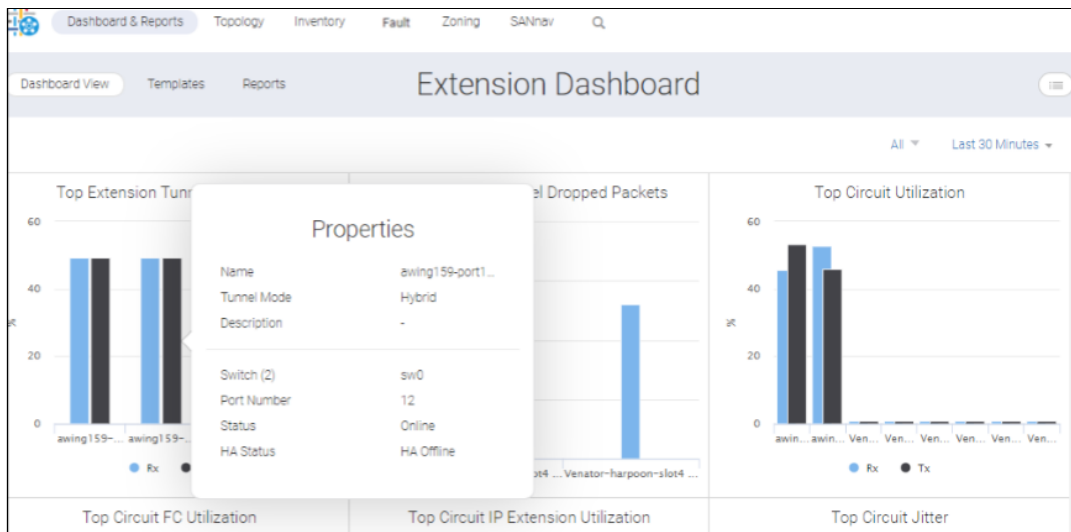

Figure 9-29 Properties of a tunnel.
5. If you want to display the properties of a tunnel or circuit, click a bar in one of the graphs, and then select Show Properties from the list. This displays a pop-up list with details about the tunnel or circuit. Figure 9-29 shows the properties of a tunnel.